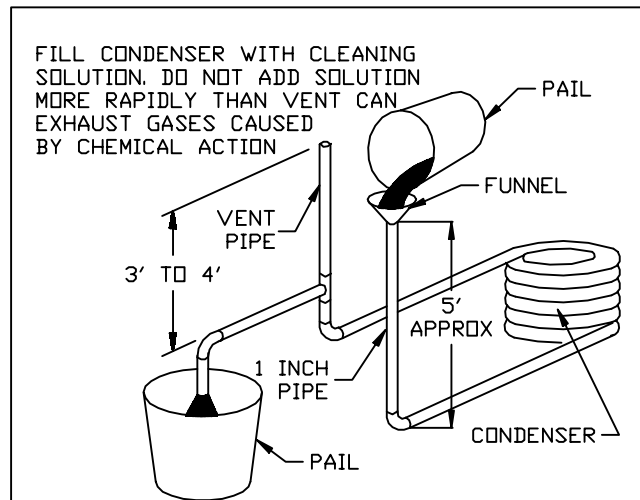

Figure 9 Gravity Flow Method
- Fill condenser as shown in Figure 9. Follow acid manufacturer's instructions. When condenser is full, allow solution to remain overnight